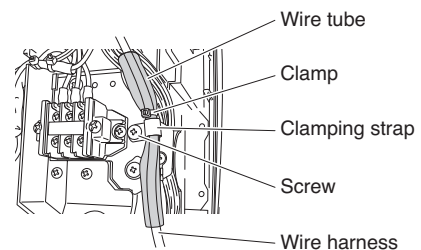

Fig. 6a
- (10) Pass the wire tube through the clamping strap, and temporarily fasten in place with the screw. Next, use a clamp and bind the wires together immediately above the clamping strap, and fasten in place with the screw in order to prevent pulling on the wire harness. (Fig. 6a)
- Install the wire tube so that the wires cannot be damaged by the edge of the metal plate. (Fig. 6a)
- (9) Pass the wire tube through the clamping strap, and temporarily fasten in place with the screw. Next, use a clamp and bind the wires together immediately above the clamping strap, and fasten in place with the screw in order to prevent pulling on the wire harness. (Fig. 6a)